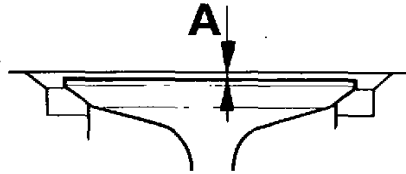

Fig. 23. Dimension A, 100-series: 1.20–1.70 mm (0.047–0.067"), max. 2.5 mm (0.10")
2. Check that the distance from the valve disc level to the face of the cylinder head after grinding is within the values shown in fig. 23. In certain cases it may be necessary to mill down the valve seat recesses.